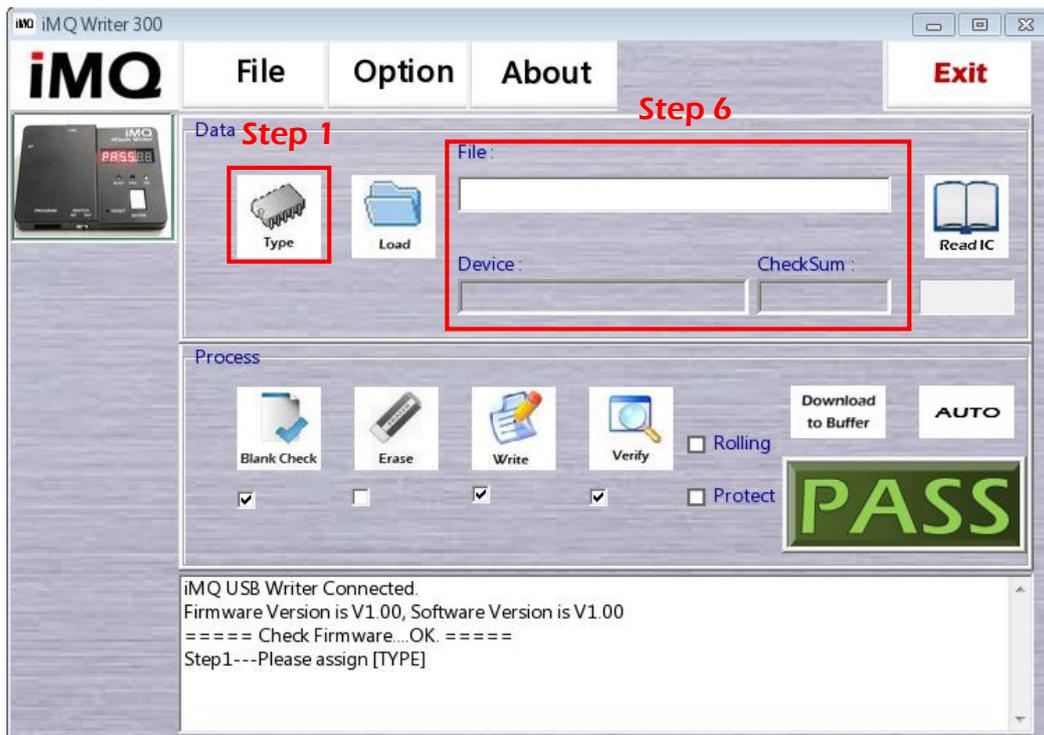
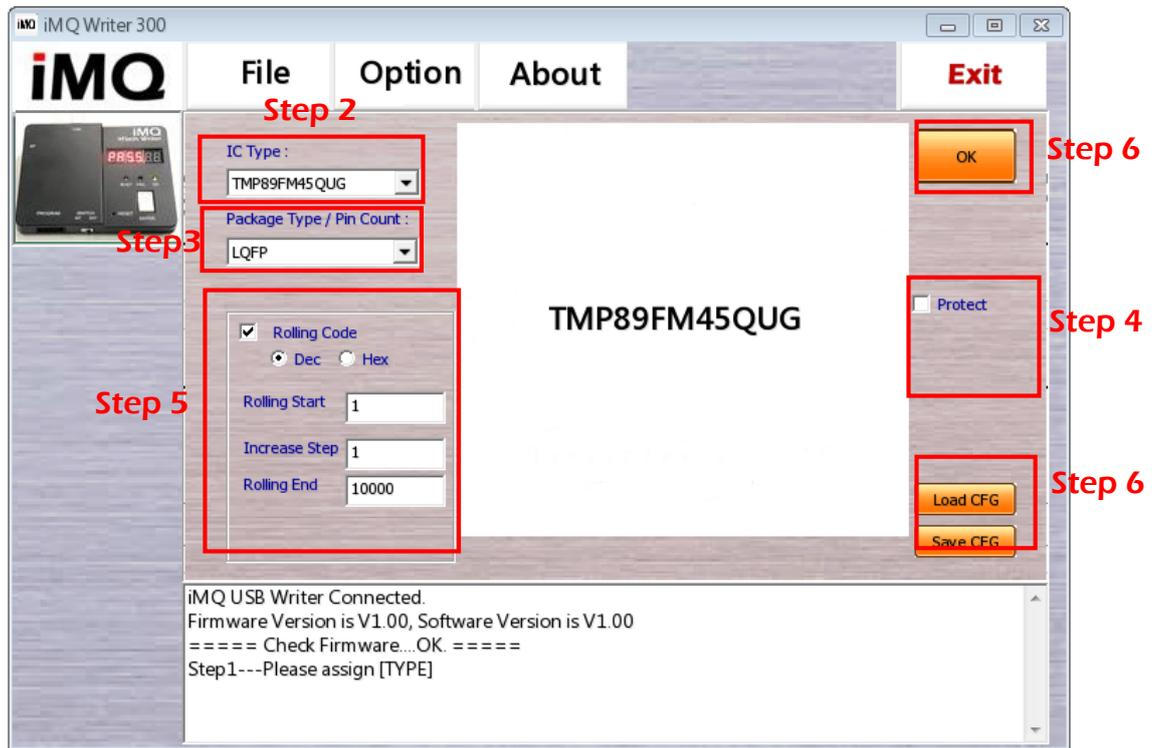

Figure 5-2
Figure 5-4
Step 1: Click the “Type” in Figure 5-2, the IC parameters setting page shows (as Figure 5-4).
Step 5: The rolling code is used to limit the programming times. User can check “Rolling Code” to enable and set the value. Rolling code can support both DEC and HEX (as figure 5-4). The value of rolling start points the start value, and the value of rolling end points the end value. Increase step means the value of the intervals. The increase step should be “1”, then the number increase “1”
This function key is used to load H16 file. Click “Load” as Figure 5-2, then load compiled H16 file to prepare programming. Complete the file loading, it will return to main page automatically, and file location, file name and checksum will be show in the main page. After loading file , the checksum is the “ iMO checksum” .
As Figure5-2, there is a check column below the "Erase" key. If the box be checked, then "Erase" function will be executed when auto programming.
As Figure5-2, there is a check box below the "Blank Check" key. If the box be checked, then "Blank Check" function will be executed under auto programming.
As Figure 5-2, the program record display on the bottom of main page.